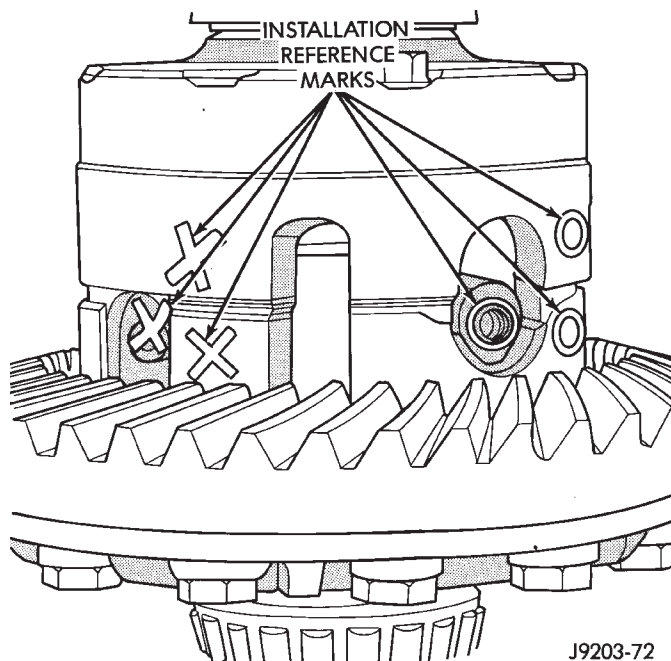

Fig. 39 Case Marked
(1) Mark the ring gear half and cover half for installation reference (Fig. 39).